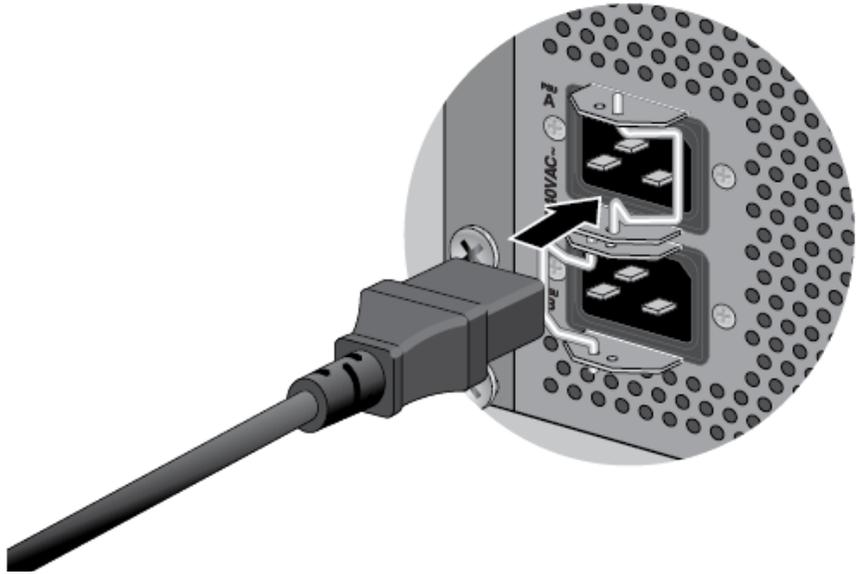

Figure 96. Connecting the AC Power Cord
1. Connect the AC power cord included with the power supply to the AC power connector on the rear panel of the chassis. If the chassis has two power supplies, you may power them on one at a time or simultaneously. Refer to Figure 96 on page 155.